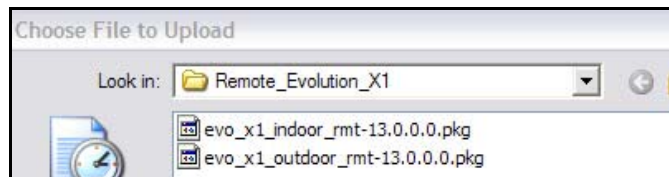

Figure 27. Evolution X1 Package Files
3. Navigate to the Evolution X1 packages on your laptop. They are located in the Images/Remote\_Evolution\_X1 folder for your release, as illustrated in Figure 27.